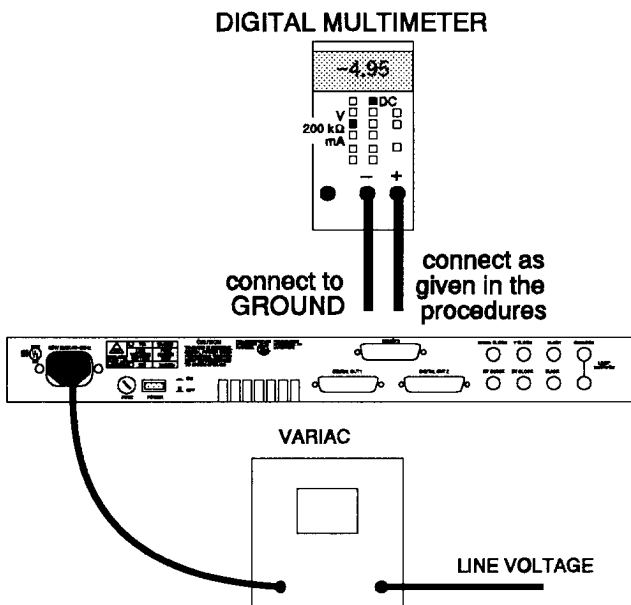

Fig. 5-15. Setup to adjust the power supply - R415.
- Connect the equipment as shown in Fig. 5-15.